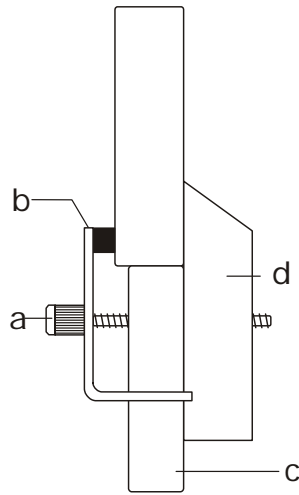

Fig. 5 Insertion of crystal into sample holder (a Screw, b Clamp, c Base, d Fixed section of sample holder)
- Remove the clamp from the sample holder and place the mounting clip for glass rods (from U19205) in the sample holder (see Fig. 5).
- Move the measuring arm to an angle $2\theta = 45^\circ$. You should select the side of the goniometer so that impinging and reflected beams are on the angled side of the sample holder (see Fig. 5).